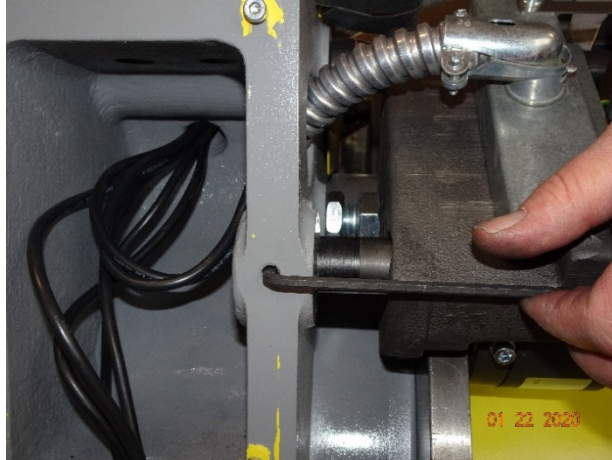

Figure 37
5. Loosen the set screw (4mm hex key, Figure 37).